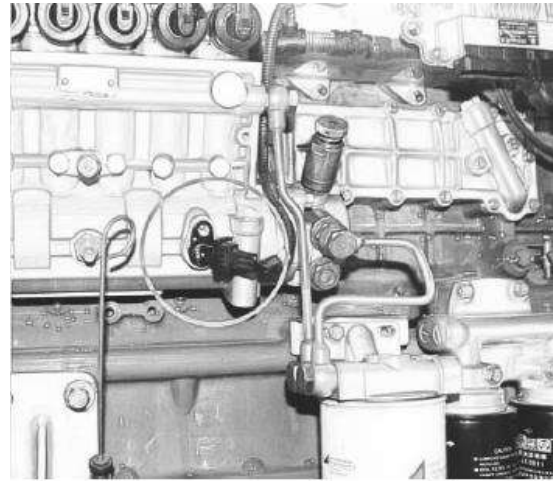

Fig 4-3
2.2 Measure the speed of oil pump camshaft with ECU. Model number: MG4S (see Fig4-3).